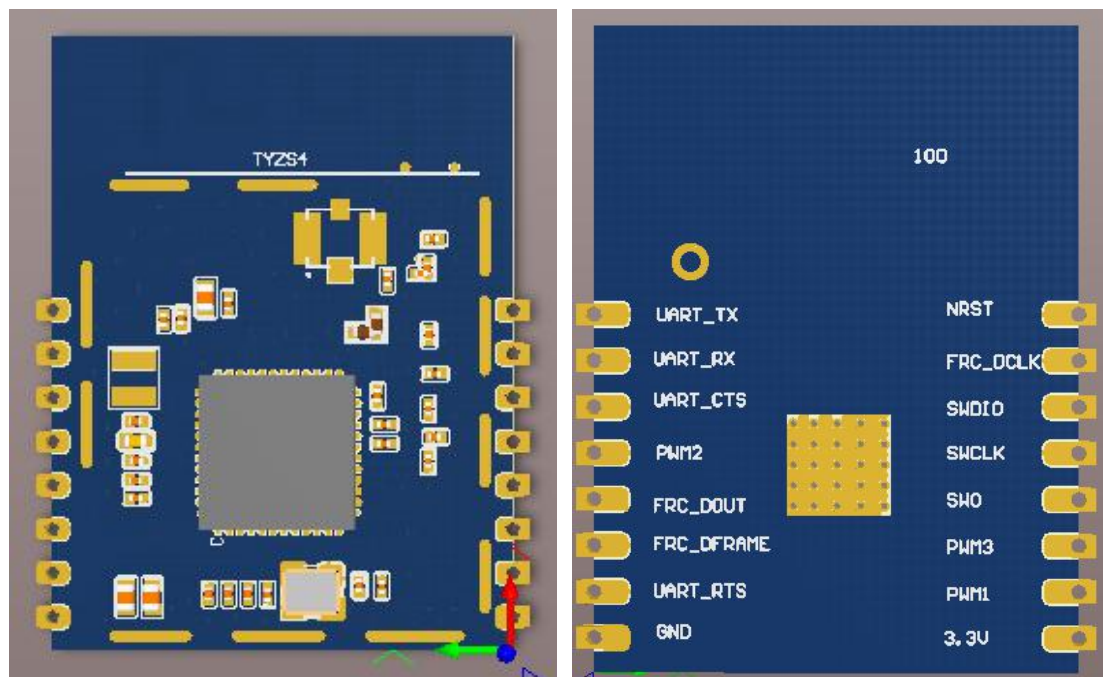

Figure 2-1 TYZS4 front and rear views
Figure 2-1 shows the TYZS4 front and rear views.
3. As shown in Figure 2-1, Pin1 (the nRST pin) and Pin16 (the TXD pin) are respectively on the upper left and upper right of the module's front side.